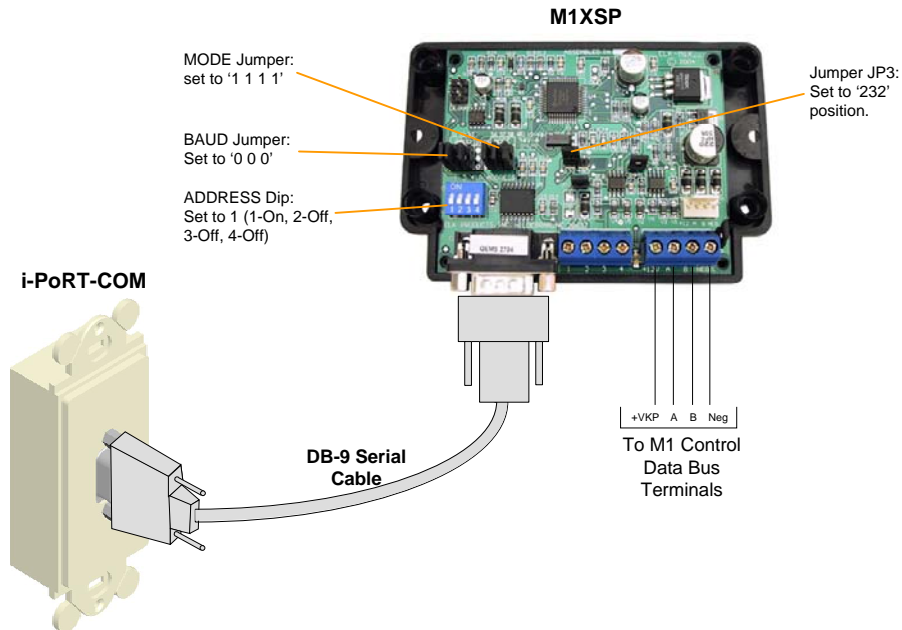

Fig. 1 – Wiring Diagram
Step 3: On the M1XSP, set the following jumpers (refer to Fig. 1 for locations):
- Set the Address DIP to 1 (see Fig. 1).
Step 4: Connect a DB-9 serial cable from the M1XSP to the i-PoRT-COM (or other i-LiNE serial port) as shown in Fig. 1.
Step 5: Connect terminals +12V, A, B and Neg. (see Fig. 1) from the M1XSP to the M1’s Keypad Data Bus Terminals. Ideally, there should be no more than two home run data bus cables, with devices daisy chained along the cables and a terminating resistor installed on the last device of each cable. Refer to the M1 Installation and Programming Manual pages 11-13 for complete data bus wiring instructions.